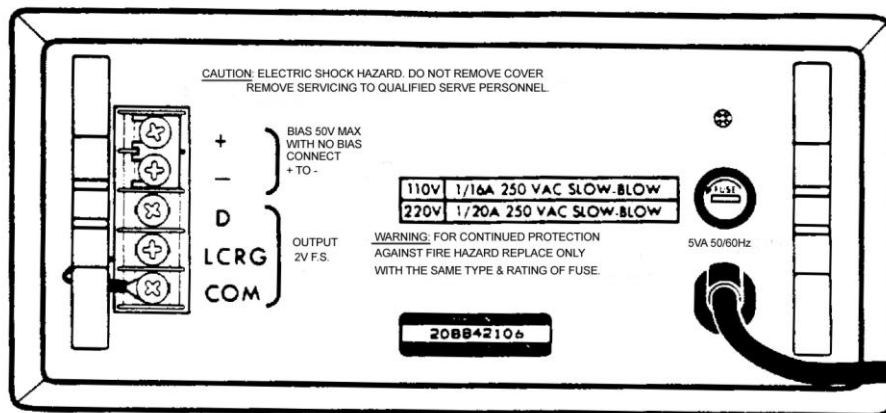

Figure 2-10
1. Locate the connector strip on the rear panel (see Figure 2-10).